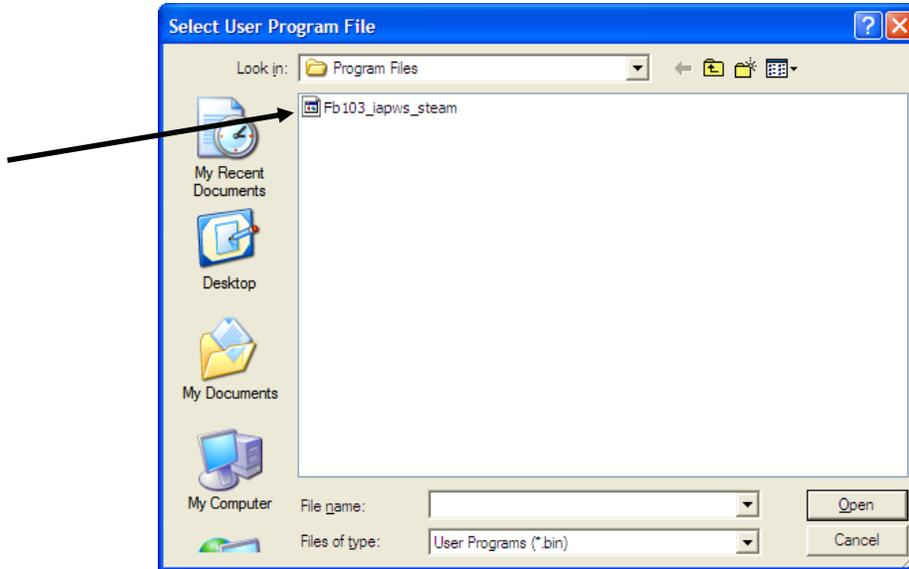

Figure 3. Select User Program File
5. Click Browse in the Download User Program File frame. The Select User Program File screen displays (see *Figure 3*).
6. Select the path and user program file to download from the CD-ROM. (Program files are typically located in the Program Files folder on the CD-ROM). As *Figure 3* shows, the screen lists all valid user program files with the .BIN extension: